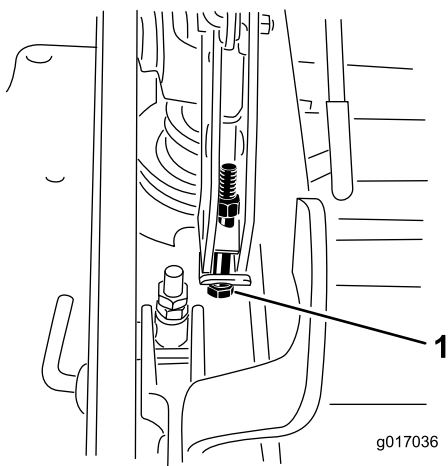

**Figure 99**
11. To adjust the single-point system, loosen the 2 bolts at the bottom of the height-of-cut plate (Figure 99).
13. Tighten the 2 bolts at the bottom of the height-of-cut plate (Figure 99).